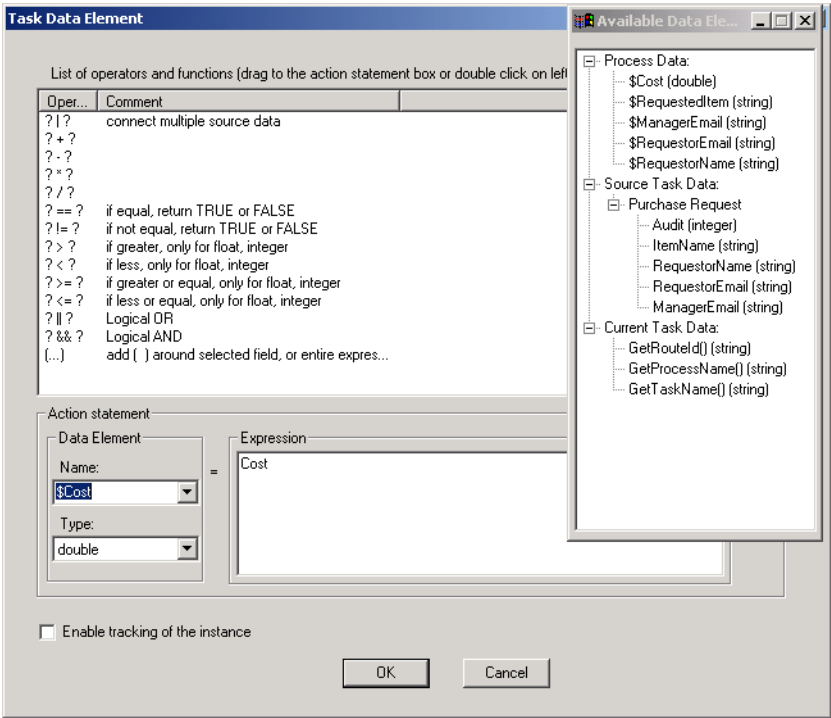

Figure 31-1. The Task Data Element dialog with the data element \$Cost being set to take the value of the Cost data element.
- ❶ To create a data element, double-click on any task, select the **Opening** or **Closing Script** tab, right-click on the Begin statement, then select **Data Element** from the **Insert** drop-down menu. The Task Data Element dialog appears.
- ❷ Type the name of the data element you are creating in the Data Element drop-down list. Or you can select a data element that you want to map from the list.
- ❸ Select the data type from the data type drop-down list.
- ❹ Drag a data element from the Available Data Elements window. This is the data element that you want to map to the new data element (see Figure 31-1, below).